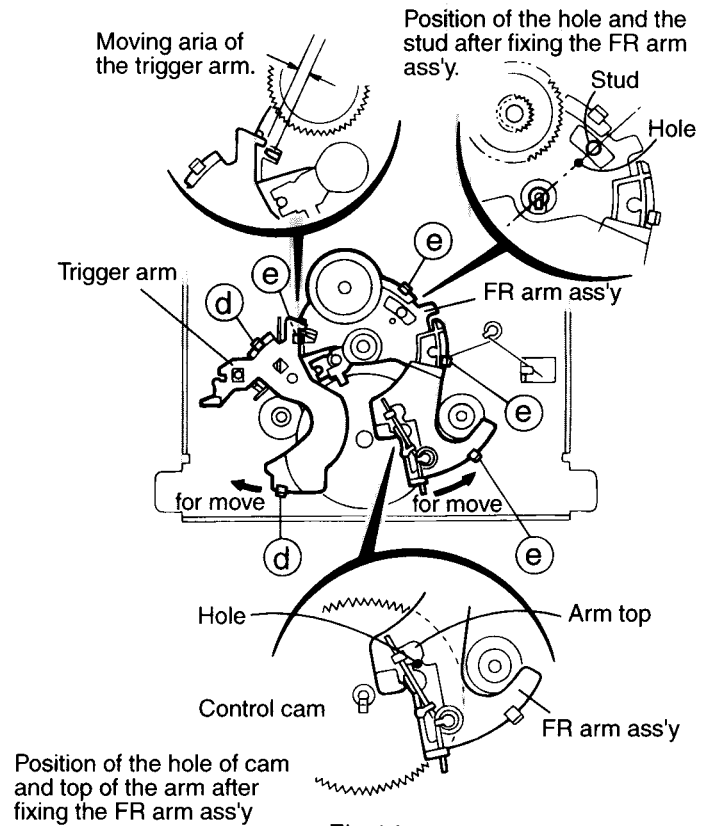

Fig.14
■ Control cam removal (See Fig.14~17)
■ How to assemble (See Fig.14~19)
shown in the figure 14.